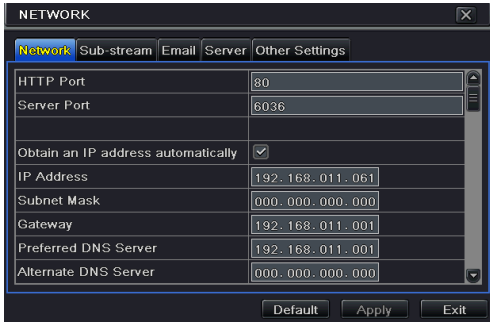

Fig 4-22 Network Configuration-Network
Step 1: Enter into Menu→Setup→Network→Network tab. Refer to Fig 4-22: